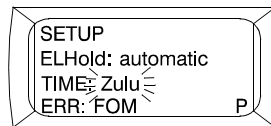

Figure 15. Zulu Display
5. Press the up arrow key (figure 1, item 2) or down arrow key (figure 1, item 3) until Zulu is flashing for TIME (figure 15).